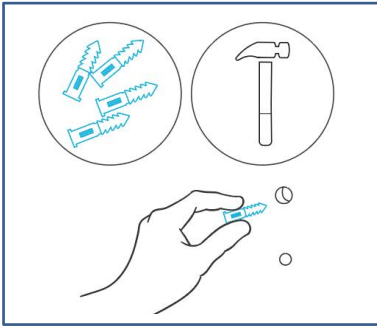

Fig.5.
- 1、 If you are mounting onto anything other than wood support or stud, insert the included four wall anchors into the drilled mounting holes. You may need to use a hammer to secure them through the holes. See the (Fig.5.)